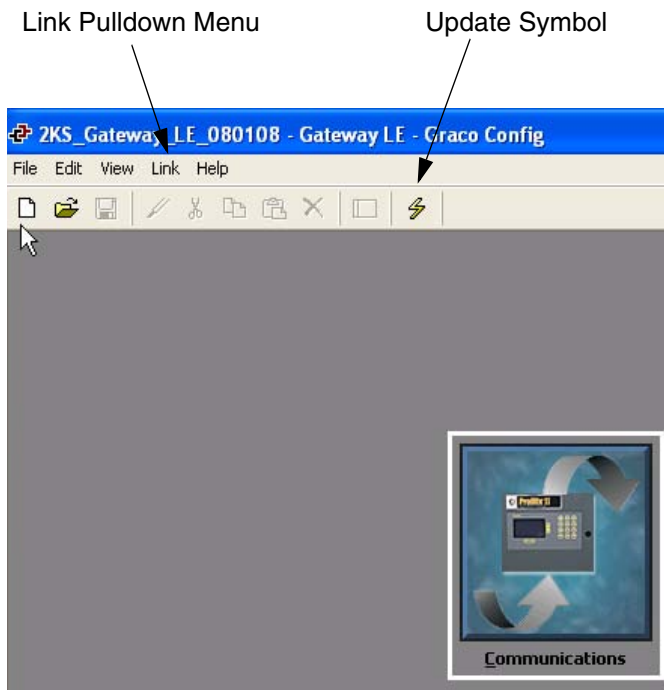

FIG. 15: GracoConfig Main Page
3. Go to File>Open and select the file with the xx.gg2 extension. The file name should appear at the top of the window (FIG. 15) once loaded.
4. Download the database using the Link>Update command. As a shortcut, use the Update  symbol on the toolbar. See FIG. 15.